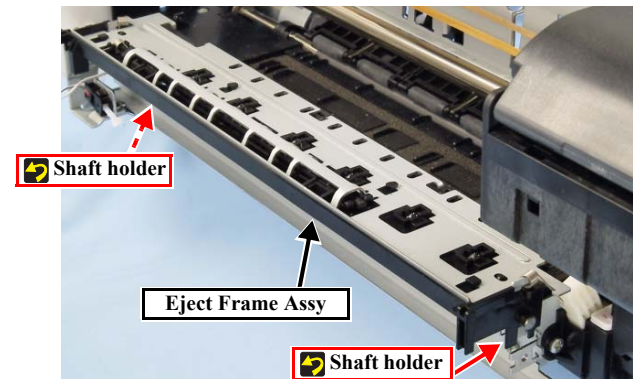

Figure 4-78. Removing the Eject Frame Assy
6. Remove the Eject Frame Assy from the printer body. (Fig. 4-78)
- Fit the shaft holders (left and right) on the underside of the Eject Frame onto the Paper Eject Roller Shaft. (Fig. 4-78)